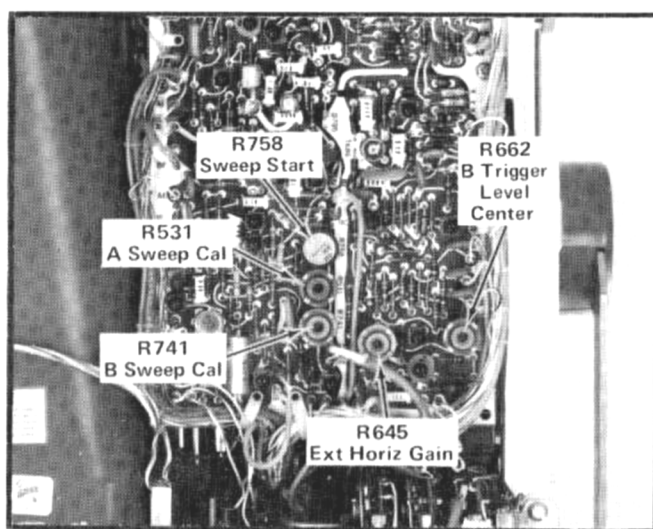

Fig. 5-13. Location of B Triggering and B Sweep Adjustments (B Sweep board).
i. ADJUST—B Trigger Level Center adjustment R662 (see Fig. 5-13) for a stable display.
j. ADJUST—Sweep Start adjustment R758 (see Fig. 5-13) so intensified portion starts at second marker (preliminary adjustment).
m. ADJUST—A Sweep Cal adjustment R531 (see Fig. 5-13) so intensified portion starts at tenth marker (preliminary adjustment).
q. ADJUST—Sweep Start adjustment R758 (see Fig. 5-13) so displayed pulse starts at the beginning of the sweep.
t. ADJUST—A Sweep Cal adjustment R531 (see Fig. 5-13) so displayed pulse starts at the beginning of the sweep.
- e. ADJUST—B Sweep Cal adjustment R741 (see Fig. 5-13) for one marker each division.
g. ADJUST—Ext Horiz Gain adjustment R645 (see Fig. 5-13) for five divisions horizontal deflection.